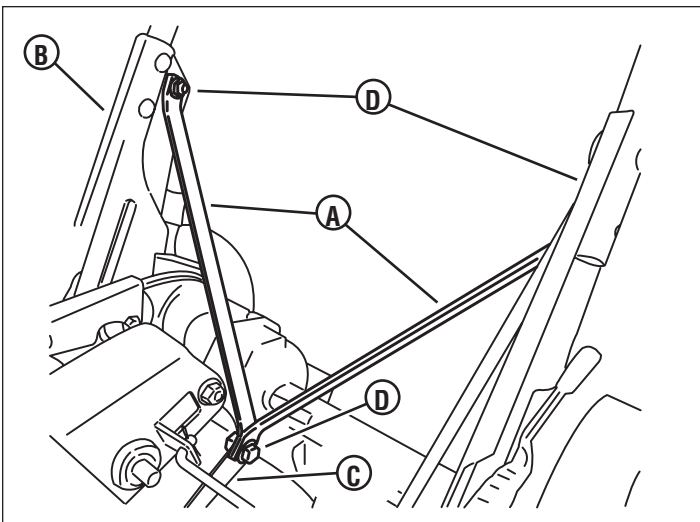

Figure 6
6. Install the two handle braces (A, Figure 6) between the lower handle brackets (B) and drive disc bracket (C) on the back of the mower deck. Align the top hole of each brace with the slotted hole in the top portion of each handle bracket, and secure with a 5/16-18 x 3/4" hex washer head bolt and flange nut (D). Align the hole in bottom of both braces with the hole in the rear of the drive disc bracket, securing with the same hardware as above. Tighten all hardware securely. NOTE: Attach the bottom of both braces to the outside of the drive disc bracket.